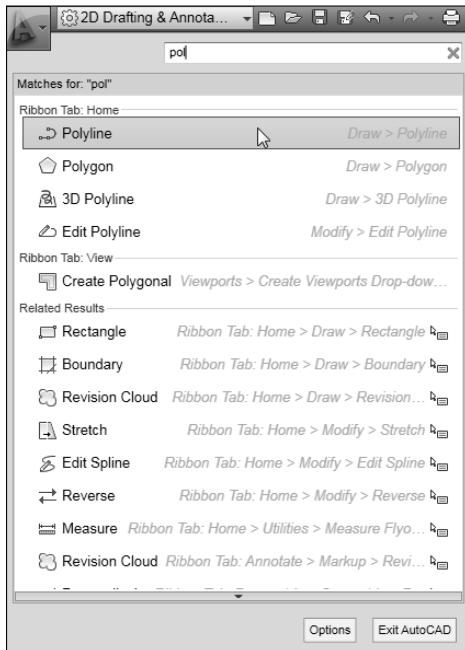

Figure 2-4:
- ✓ **Search:** If you're not sure of a command name or you want help on a topic, just start typing in the Application Menu's search bar. AutoCAD 2011 very quickly displays a categorized list, complete with links to start commands or to access the online help (see Figure 2-4).